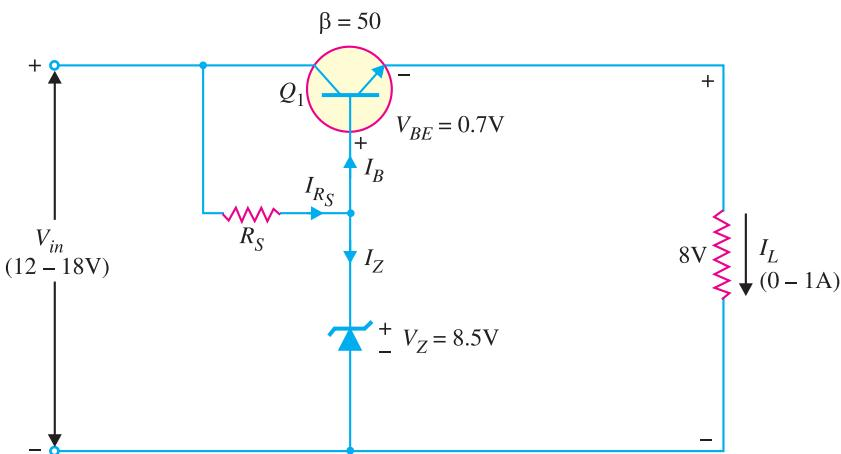

Fig. 17.16
**Example 17.15.** In a series transistor voltage regulator (See Fig. 17.16), the load current varies from 0–1A and the unregulated d.c. input varies from 12–18V. The 8.5V zener diode requires atleast 1 mA of current to stay in its regulating region (i.e. \$I\_{Z(min)} = 1\$ mA).